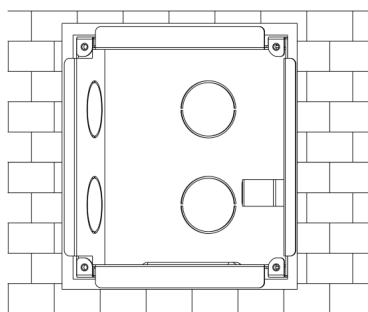

Figure 2
- b) Embed metal bracket into wall until its four peaks lean against the wall.See Figure 2.